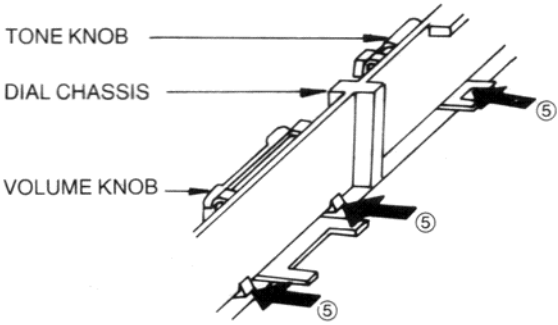

Fig. 7
(※2) Remove the knobs (VOLUME, TONE) in the direction of arrow ⑤. (Fig. 7)